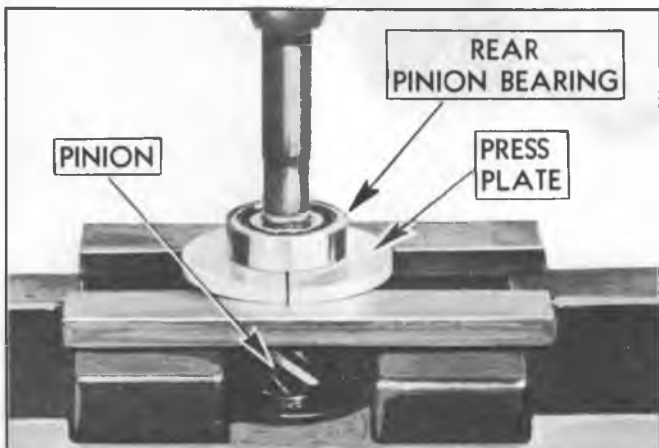

Fig. 4G—Pinion Rear Bearing Removal (11,000 Lb. Axle)
5. On the 11,000 lb. axle, remove pinion rear bearing snap ring and press bearing from pinion, using Tool J-1453 (fig. 4G).